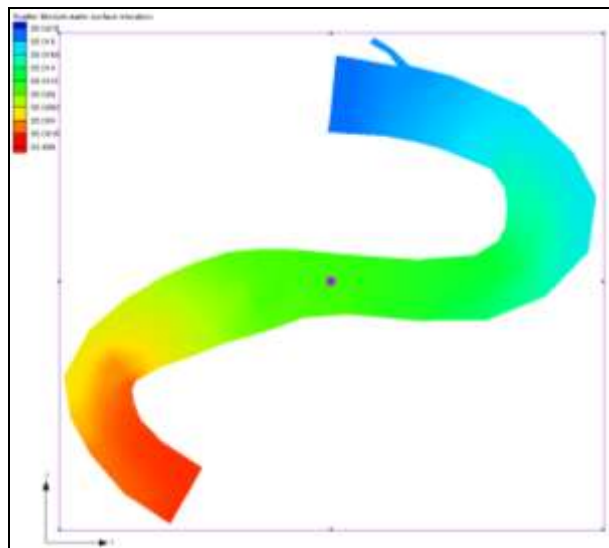

Figure 2 Grid frame
6. Using the **Create 2-D Grid Frame**  tool, create a grid frame enclosing the entire S-curve, as shown in Figure 2.